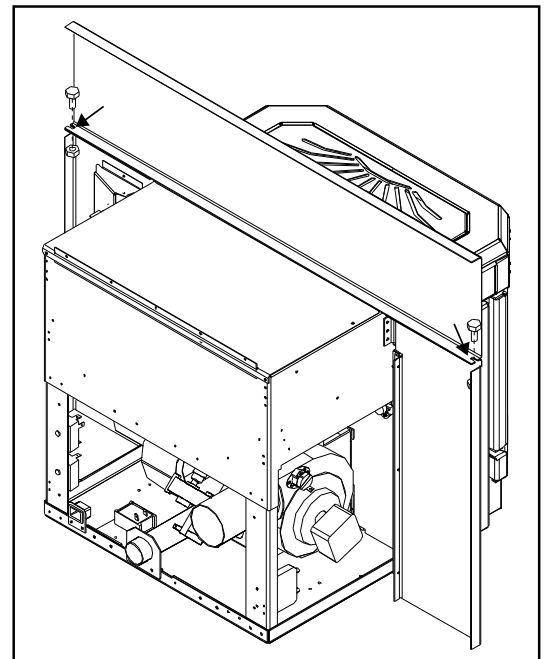

Figure 38: Assembling the Surround Panel, back view.
5. Insert each side panel anchor bolt through the top panel into the corresponding side panel holes and tighten using a $\frac{7}{16}$ " wench or socket (refer to Figure 38).